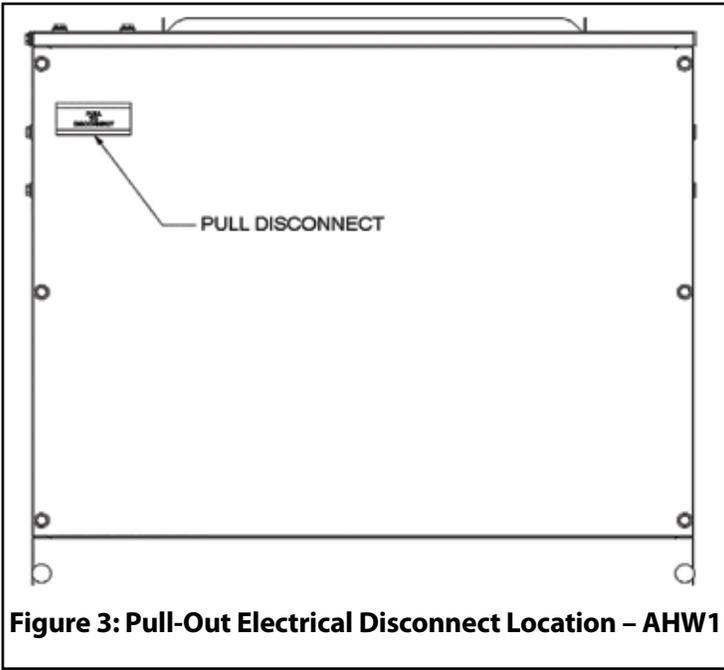

Figure 3: Pull-Out Electrical Disconnect Location – AHW1
- 4. If it has been removed, insert the **Pull-Out Electrical Disconnect** located on the front panel of an electric heat air handler (See Figure 3).
- 3. Remove the Pull-Out Electrical Disconnect located on the front panel of an electric heat air handler and place it in a safe location (See Figure 3).